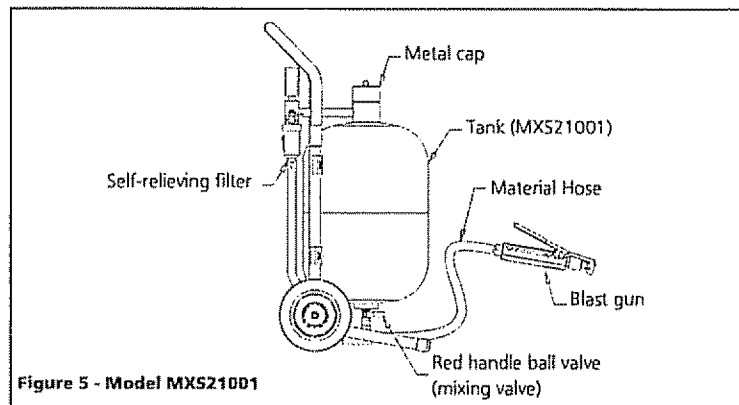

Figure 5 - Model MXS21001
1. Set blue handle ball valve and the two red handle ball valve to the fully closed position (see Figures 5, 6, and 7).